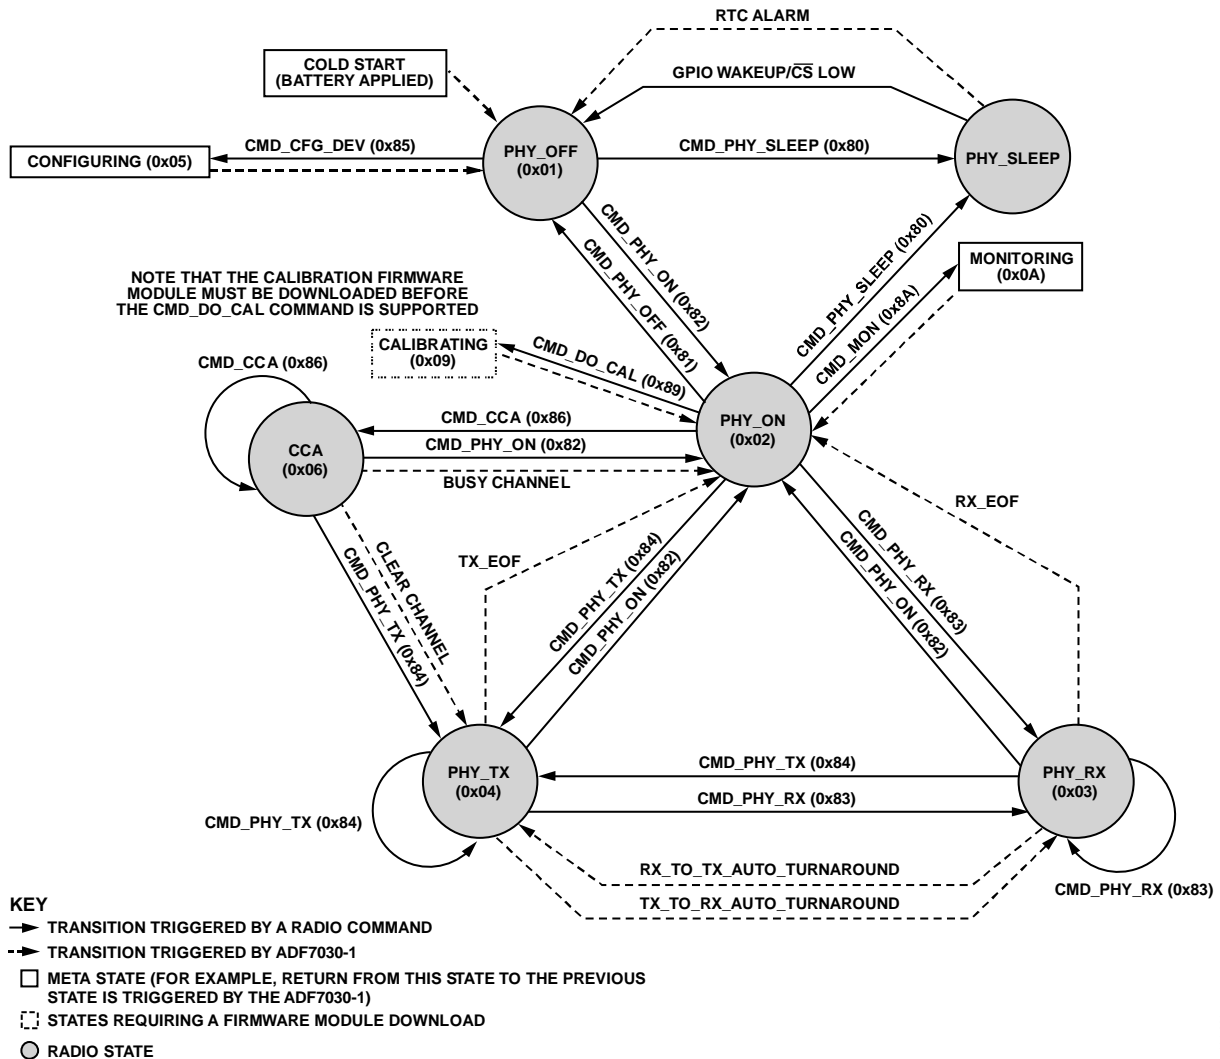

Figure 3. ADF7030-1 State Machine
The ADF7030-1 implements a state machine that the host controls via commands. The ADF7030-1 executes a transition from the current state to the next state in response to a command received from the host. These transitions are shown as solid lines in Figure 3. The ADF7030-1 also executes autonomous transitions, shown as dotted lines in Figure 3.
In the PHY_TX state, the ADF7030-1 transmits the packet data. The ADF7030-1 can be configured to autonomously transition from the PHY_TX state to the PHY_ON state once the ADF7030-1 has fully transmitted the packet. This autonomous transition is labeled TX_EOF in Figure 3. However, the ADF7030-1 can also be configured to autonomously transition from the PHY_TX state to the PHY_RX state (called Tx to Rx autoturnaround) after the ADF7030-1 has fully transmitted the packet. This autonomous transition is labeled TX_TO_RX_AUTO_TURNAROUND in Figure 3. The ADF7030-1 also supports transmission test modes including continuous carrier wave (CW) and pseudorandom binary sequence (PRBS) transmission. The host can command the ADF7030-1 to return to the PHY_ON state by issuing a CMD_PHY_ON command in the PHY_TX state. Any packet being transmitted at that time is aborted. The host can also command the ADF7030-1 to enter the PHY_RX state by issuing a CMD_PHY_RX command. Any packet being transmitted at that time is aborted. The ADF7030-1 current in the PHY_TX state depends on ADF7030-1 settings, such as transmission power and data rate. See the Transmitting and Receiving Packets section for more details on packet transmission.
In the PHY_RX state, the ADF7030-1 receives packets. The ADF7030-1 can be configured to autonomously transition from the PHY_RX state to the PHY_ON state after the ADF7030-1 has received a packet (even if the received packet has an error such as CRC failure). This autonomous transition is labeled RX_EOF in Figure 3. However, the ADF7030-1 can also be configured to autonomously transition from the PHY_RX state to the PHY_TX state (called Rx to Tx autoturnaround) after the ADF7030-1 has received a packet without error. If the programmed CRC length, CRC_LEN in the GENERIC_PKT_FRAME_CFG0 register, is 0, a received packet is assumed to be valid. This autonomous transition is labeled RX_TO_TX_AUTO_TURNAROUND in Figure 3. The host can command a transition from the
In the clear channel assessment (CCA) state, the ADF7030-1 continually measures the received RSSI level and compares it against a configurable RSSI threshold, until the expiration of a configurable time interval. On the expiration of the time interval, the ADF7030-1 autonomously transitions from the CCA state to the PHY_TX state if the measured RSSI did not exceed the threshold at any instant during the time interval. If, however, the measured RSSI did exceed the threshold at any instant during the time interval, the ADF7030-1 returns to the PHY_ON state, when the time interval expires. These autonomous transitions are labeled clear channel and busy channel, respectively, in Figure 3. The result of the comparison is available for the host to interrogate. This functionality can be used by the host to support CCA functionality as specified in the IEEE802.15.4g-2012 standard (Part 15.4) for MR-FSK. Note that packet reception is not possible during PHY_CCA.
The format of a radio command that triggers the ADF7030-1 to execute a transition between states is shown in Table 4. The host sets the desired destination state in Bits[4:0]. The host must guarantee that the transition between the current state and the requested state is supported as shown in Figure 3. If an unsupported transition is commanded, the ADF7030-1 remains in the current state.